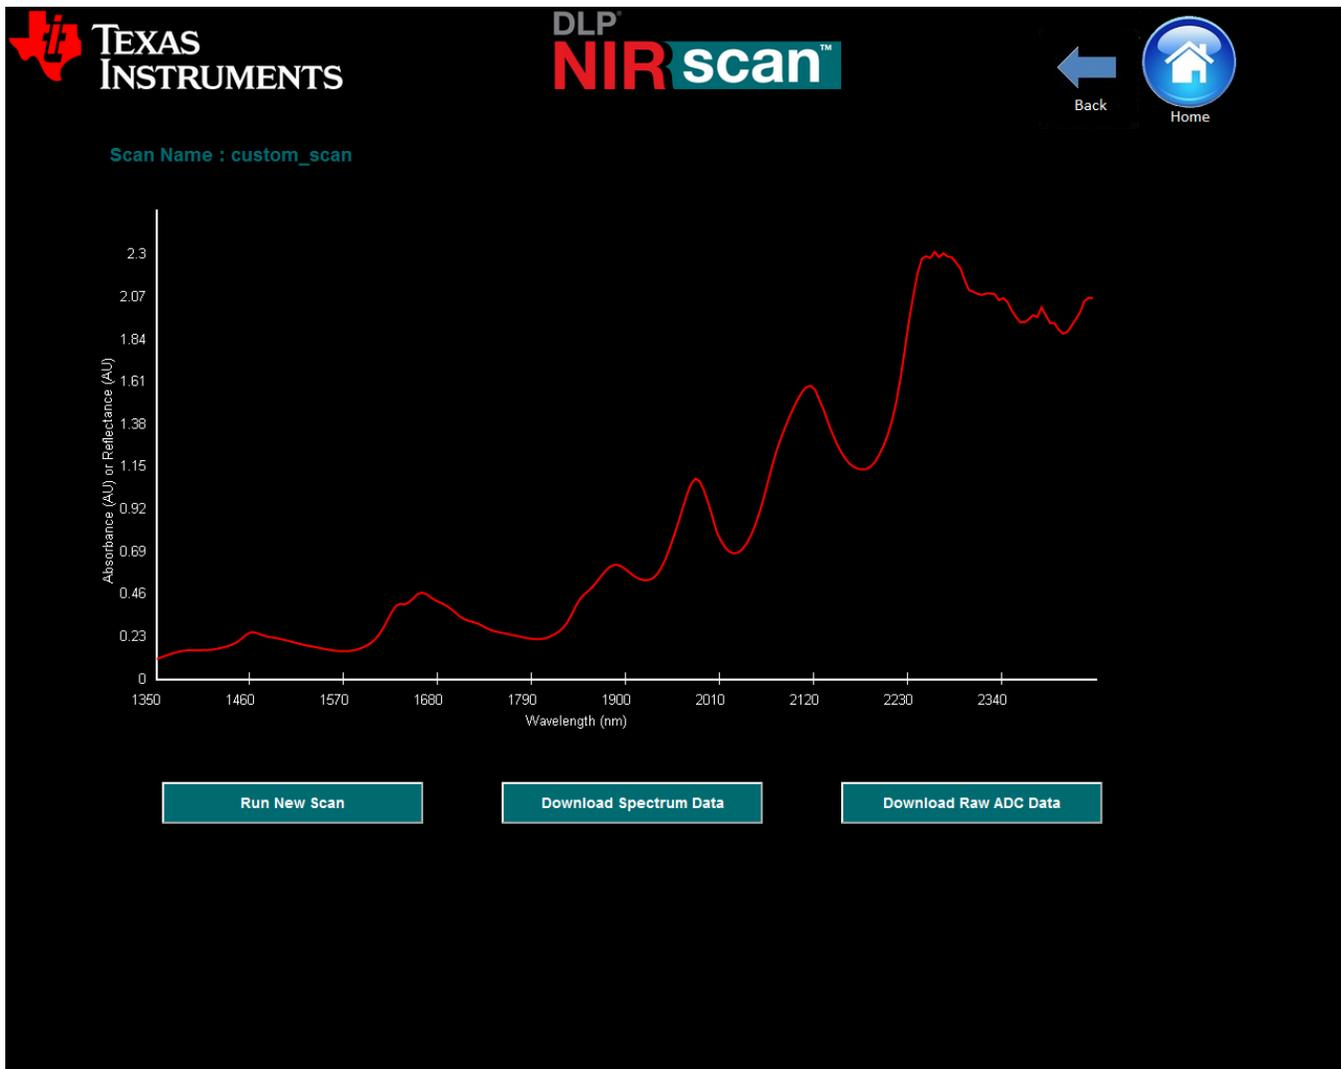

Figure 3-5. Example Custom Scan
6. Select the **Perform Scan** button. The DLP NIRscan then scans the sample, calculates the sample material absorbance, and displays the absorbance in graphical format on the next screen. Figure 3-5 shows an example of this screen.
6. Select the **Perform Scan** button. The DLP NIRscan will scan the sample, calculate the sample material absorbance, and display the absorbance in graphical format on the next screen. Figure 3-5 shows an example of this output.